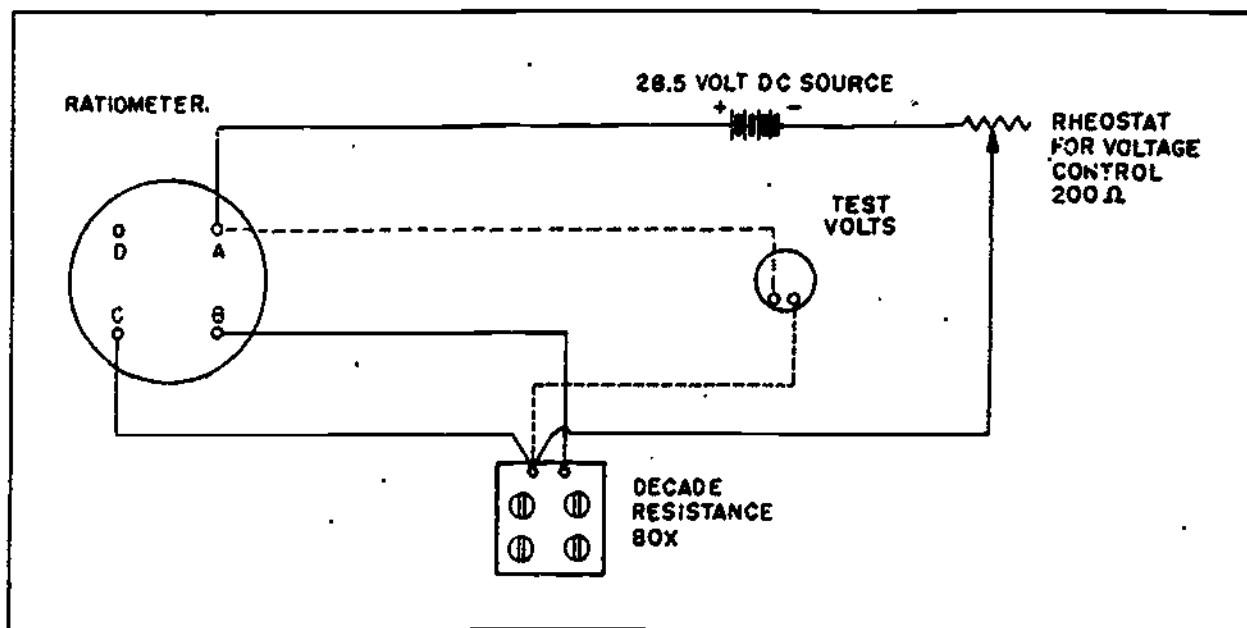

Figure 3-1. Wiring Diagram for Testing Ratiometer with Decade Resistance Box
a. There are two methods of calibrating the Ratiometer described herein. The first method requires a decade resistance box, rheostat, and direct-current voltage supply as shown in figure 3-1. With this method, the decade resistance box is adjusted to the resistance required to deflect the Ratiometer pointer to each calibration point. See figure 3-2.
- a. For calibrating procedures with decade resistance box, use the same connections shown in figure 3-1, but use test points, resistances, and test tolerances in figure 4-3.